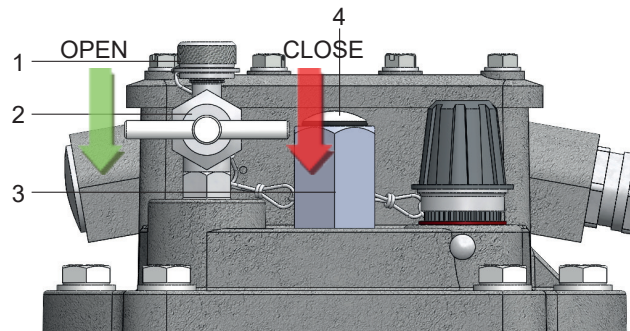

Fig. 12 - Cover of the gas relay with oil filler neck (code 29D)
- Remove the small cap nut (Fig. 12/ no. 1) from the bleeder valve (Fig. 12/ no. 2) and open the bleeder valve (turn anticlockwise).
- Remove the locking screw (Fig. 12/ no. 4) from the oil filler neck (Fig. 12/ no. 3)
- As soon as insulating liquid comes out, screw the locking screw (Fig. 12/ no. 4) firmly onto the oil filler neck
- Close the bleeder valve and fit the small cap nut (Fig. 12/ no. 1) on the bleeder valve and tighten.